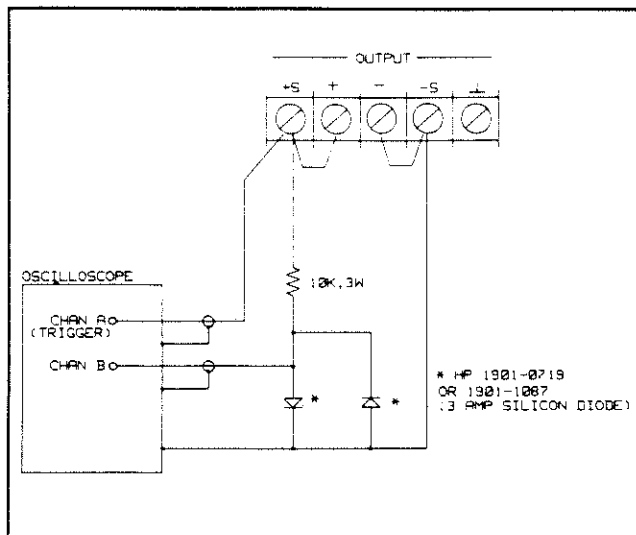
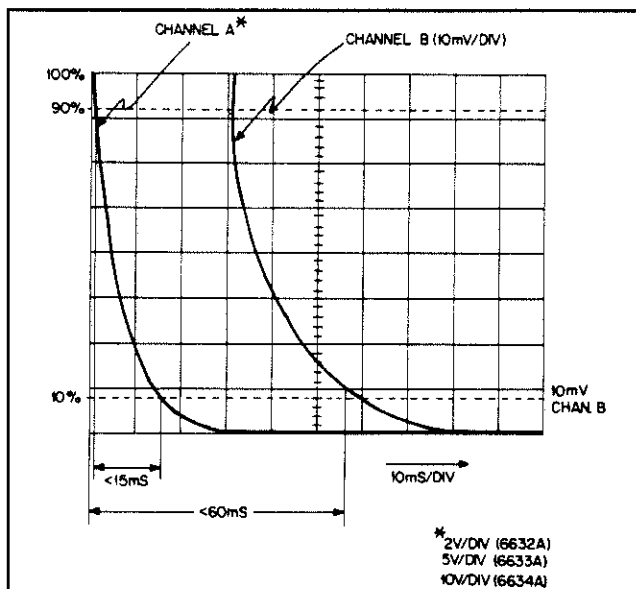

Figure 3-3. Down Programming Speed Test Setup
Figure 3-4. CV Down Programming Speed Test Waveforms
- Turn off the supply and connect the output as shown in Figure 3-3.
specified in Table 3-2, CV PROG SPEED. Look for a smooth waveform with no "kinks" or aberrations. Refer to the Channel A waveform shown in Figure 3-4.
- i. Now observe Channel B on the oscilloscope while maintaining the trigger on Channel A as in step f. Note that the diode clamp, used in the test setup of Figure 3-3, prevents gross overload of Channel B (which is set at 10 mV/div) allowing examination of the "tail" of the waveform. The output voltage should be within 1 LSB (5 mV for HP 6632A, 12.5 mV for HP 6633A, 25 mV for HP 6634A) of its final settling value on the bottom horizontal line in less than the time specified in Table 3-2, CV PROGRAMMING SPEED. Refer to the Channel B waveform in Figure 3-4. The 1 LSB value for the particular model being tested is listed Table 3-2.